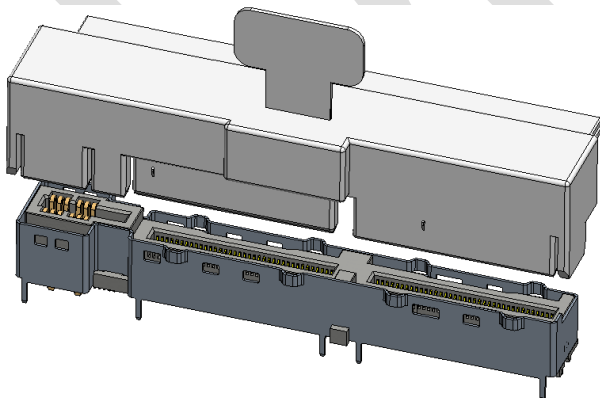
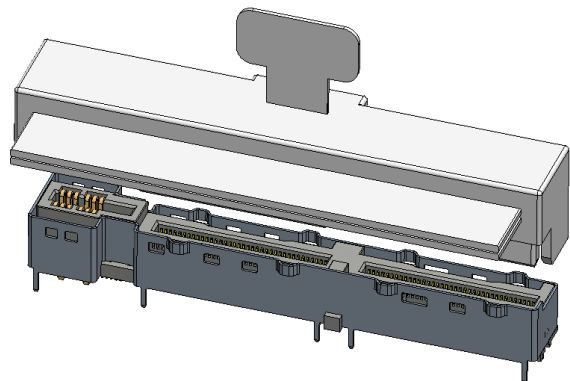
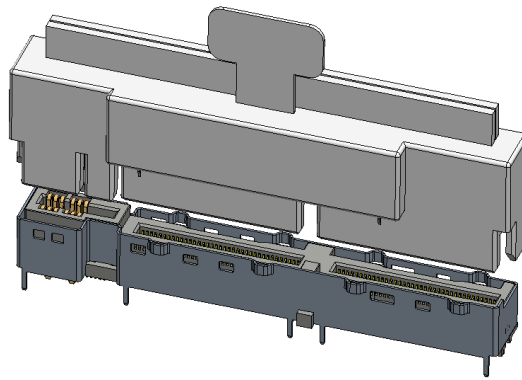

Figure 4-2 Combo x16+21A Power RA Cable Application
Figure 4-3 Combo x16+21A Power RRA Cable Application
Figure 4-4 Combo x16+21A Power STR Cable Application
2. A single combo cable can plug into the Vertical Combo DE x16+21A Power connector as shown in Figure 4-2, Figure 4-3, or Figure 4-4.